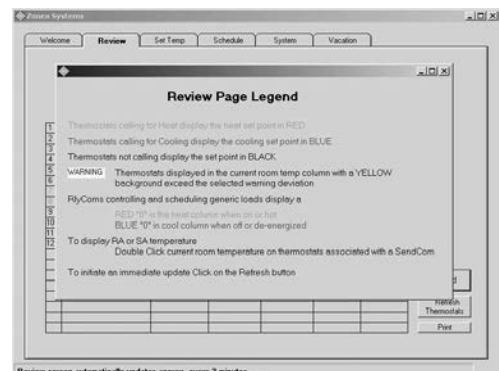

Fig. 20
3. Click on the **Legend** button for an explanation of activities displayed on the REVIEW Screen (see Fig. 20).